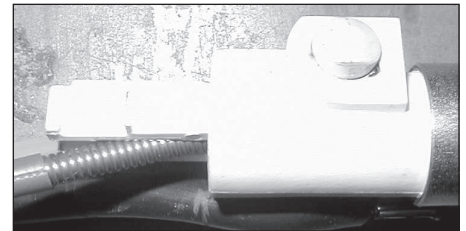
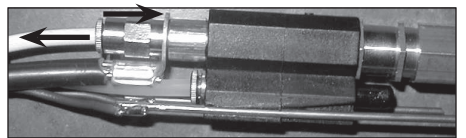

Figure 4a
Figure 4b
the valve. Unlock by pulling up, then out from the valve (see figure 4a). WG3020: Pull liner from valve while pressing collar of liner fitting (see figure 4b).
7. Push new liner into the valve at an angle until seated fully and then push sideways to lock it in position (see figure 4a). WG3020: Push new liner into fitting. It locks automatically.